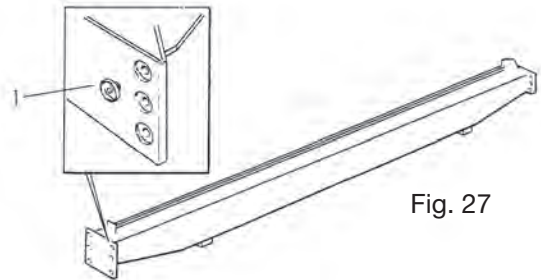

Fig. 27
- Remove the plastic caps (figures 27 and 28) and carefully clean the seats where the calibrated bushes are placed, eliminating any traces of paint or dirt.